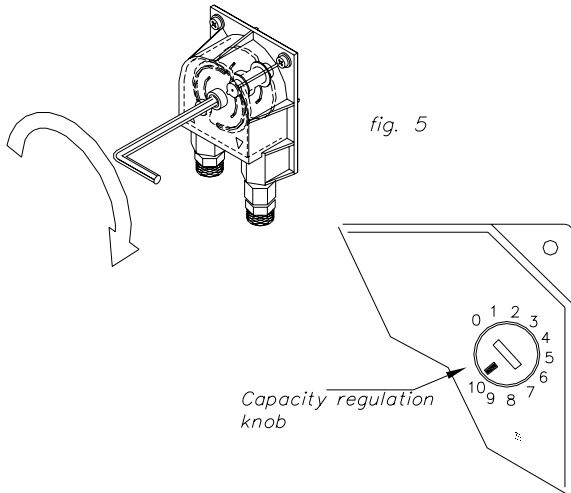

fig. 5
- Turn the rollers support rotor in the direction of rotation of the pump (see arrow) using a 6 mm setscrew (Allen) wrench in the hexagonal hole on the device until the circuit is completely full (fig. 5).